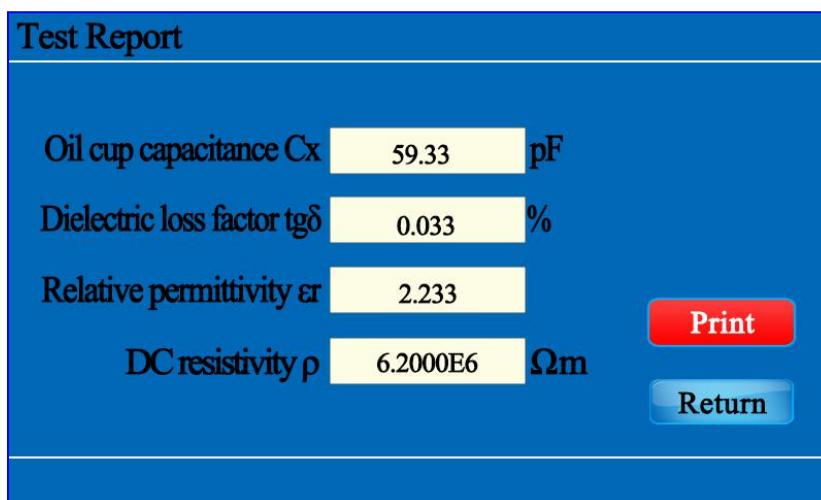

Fig.10
③Test Results----After the test is over, the test results are displayed in the screen shown in Figure 10. If the automatic print item is selected earlier, the printer automatically prints the test result. If there is no automatic print item selected, tap the [Print] button and the printer will print the displayed test result. Tap the [Return] button to return to the main menu.